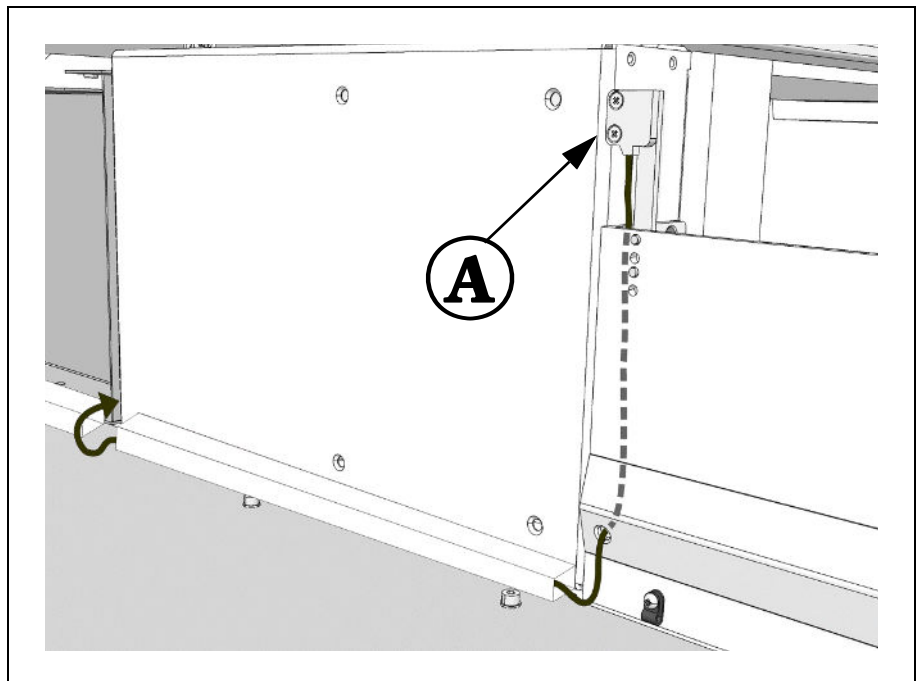

Figure 12-5. Adjust Board Jam Sensor.
4. Adjust the Board Jam Sensors by loosening the two screws ('A' in Figure 12-5) holding the Board Jam Sensor to the sensor bracket.
5. Slightly turn the Board Jam Sensor (See Figure 12-5) and monitor the display on the Main Unit. The value on the display should be as high as possible.